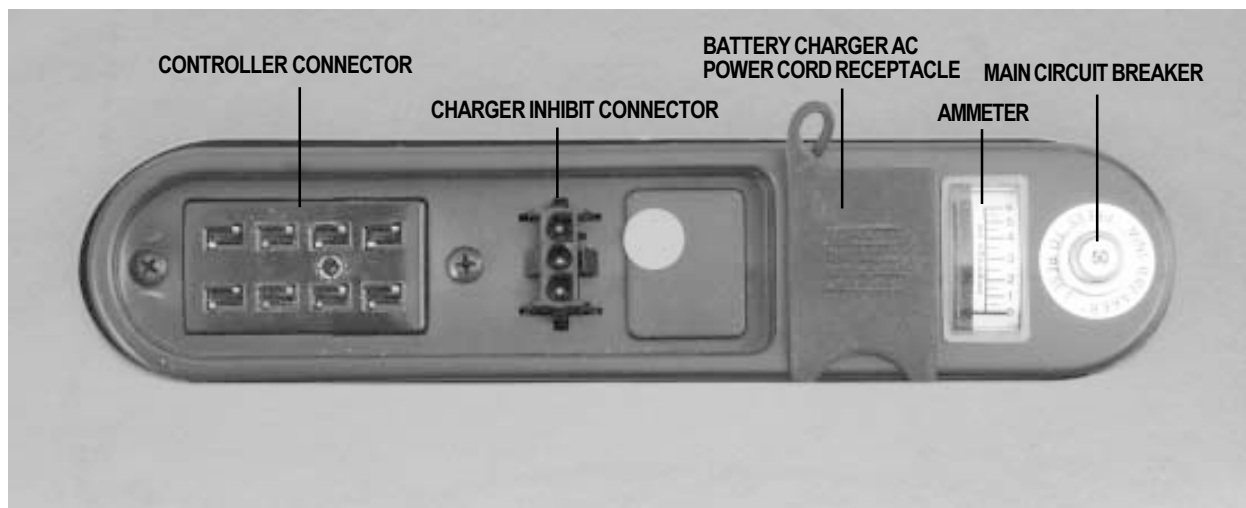

Figure 4. 1143 Electronics Tray
1. Unplug the controller and the charger inhibit connectors from the electronics tray. See figure 4.